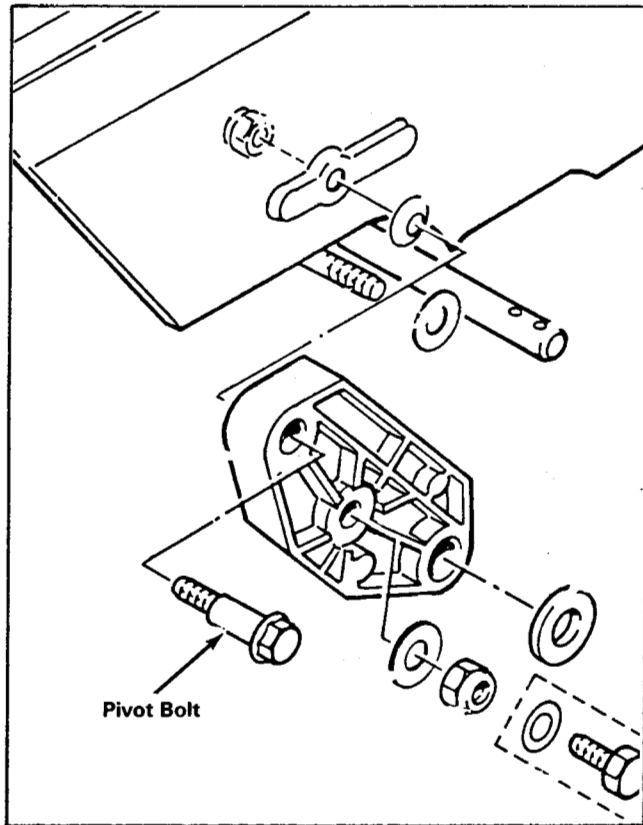

Figure 124
4. Slide the axle through the pivot arm and attach the chain. Fasten the right hand pivot arm to the frame, being sure to install the special washer between the pivot arm and frame. Tighten the flanged head pivot bolt and the nylon locknut. See Figure 124.